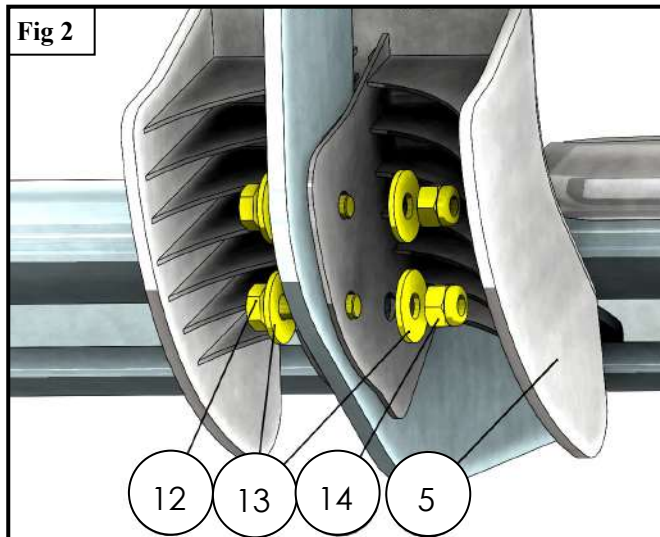

Fig 2
4. Loosely preinstall the Bracket Covers (5) to the Mounting Brackets using the included M6 Hardware. See **Figure 2**.